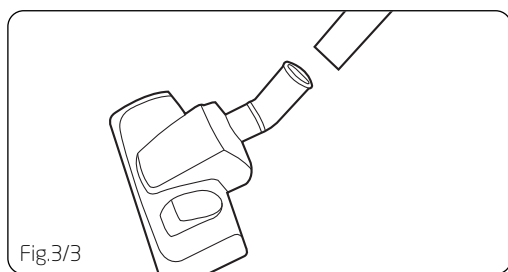

Fig.3/3
3. Fit the combination floor head by pushing onto the extension tube. (Fig.3/3).